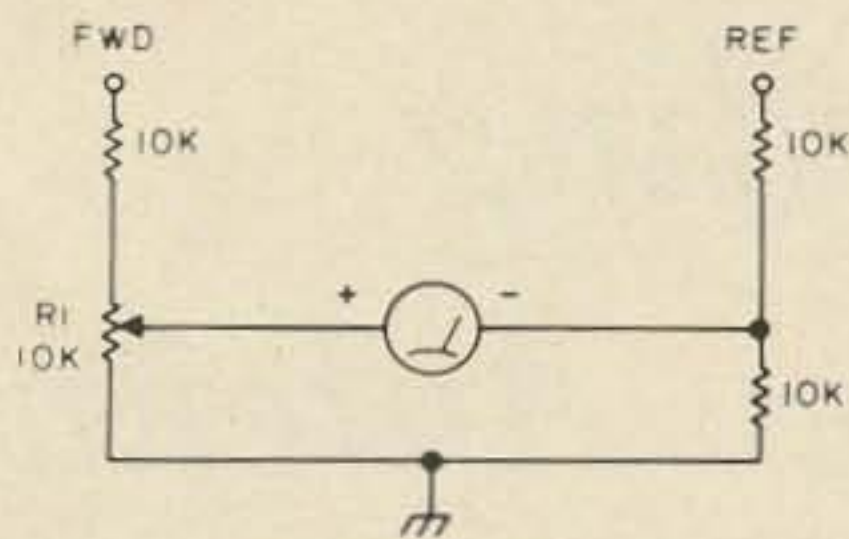

Fig. 2. The direct reading swr indicator which gives more accurate results.
For example, there is no way to determine what the SWR is; that is, high power with high SWR may give the same reading as lower power with low SWR. This limitation is removed in the circuit of Fig. 2. The SWR calibrations on the usual SWR indicator are computed from the following equation: $SWR = (FWD + REF) / (FWD - REF)$. As an example, if we let 10 represent a full scale reading, and adjust to full scale with the bridge set to FWD, and switch to REF and get a half-scale reading (5) the SWR is $(10 + 5) / (10 - 5) = 3.0$. For the same case, using the circuit of Fig. 2, the voltage at point F will be twice that at point R. If we now set R1 to its midpoint, the meter will read zero. It now becomes obvious that R1